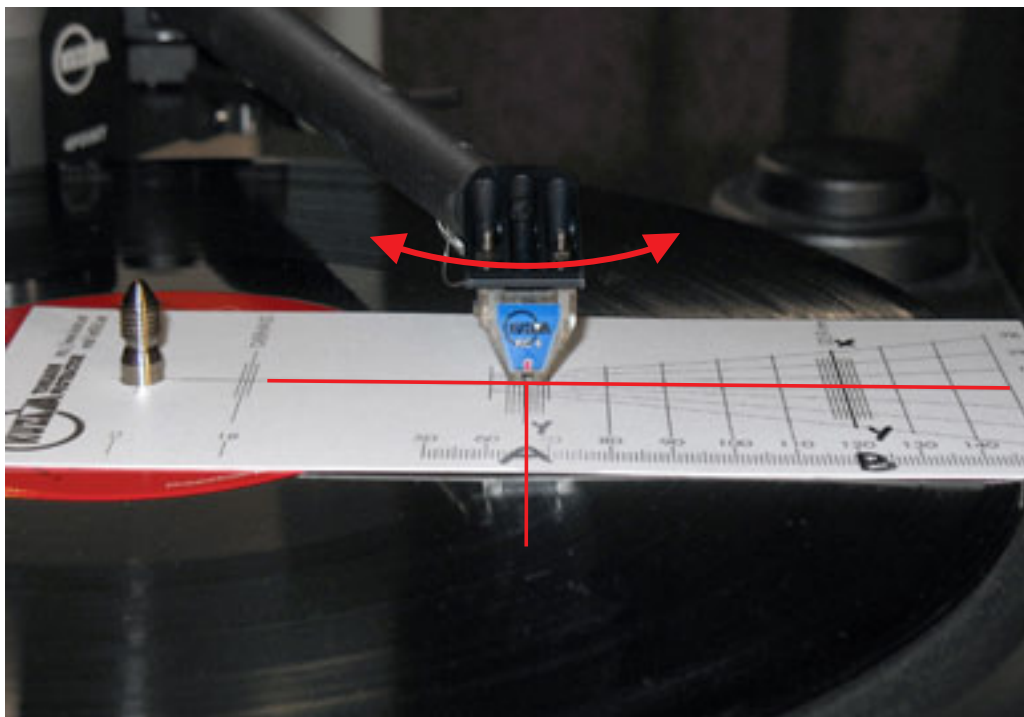

Fig. 27. Alignment at intersection A (inner null line: 'Y-X' and zero line)– cartridge rotation
1. Alignment at intersection A Fig. 27 & 30
3. Repeat alignment at intersection A *Fig. 27*
Again place the tip (stylus) precisely at intersection A. If the cantilever is not parallel with the 'Y–X' line, then the body of the cartridge will have to be again rotated slightly and then checked again at B. Fig. 27.
5. Repeat alignment at intersection A *Fig. 27*
- a) **A:** Put the stylus tip at the intersection A of zero line and 'Y–X' line and, by cartridge body rotation, align the cantilever along the 'Y–X' line. Fig. 27 & 30